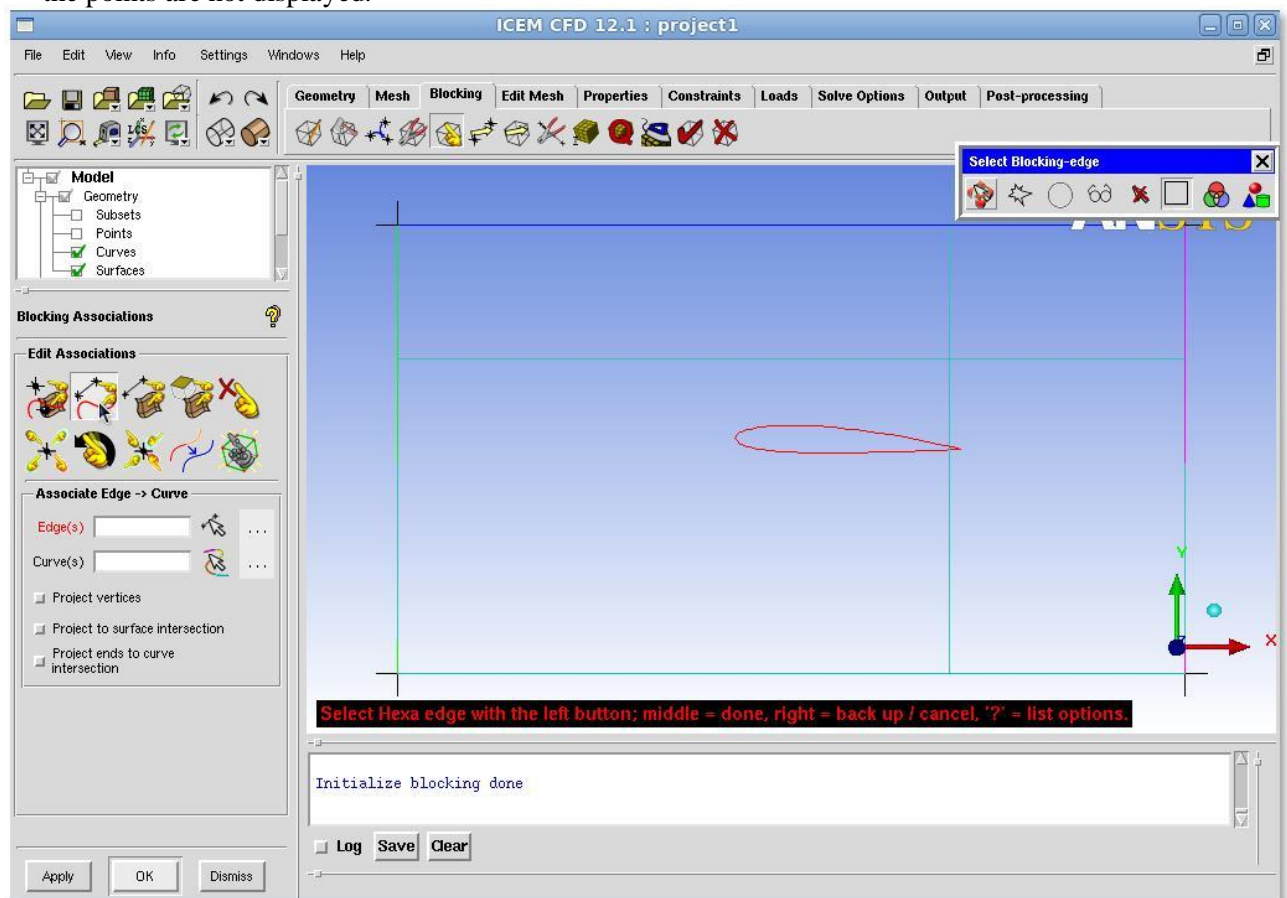

Figure 4: Setting up the Blocking
- In the Blocking Tab click on “Associate” (fifth tool from the left) then in the left hand menu that appears select “Associate Edge to Curve”. This should look a bit like Figure 4 , note that in Figure 4 the points are not displayed.